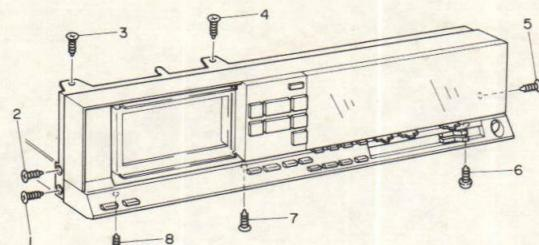

Fig. 4
3) Remove 8 screws. (See figure 4)